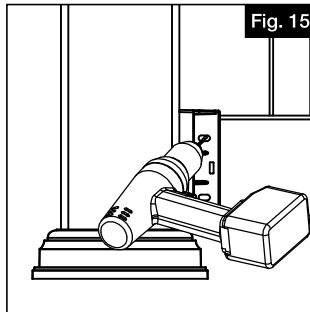

Fig. 15
- a. For each installed bracket, pre-drill in the center of each elongated hole with a $\frac{1}{8}$ " drill bit (Fig. 15).